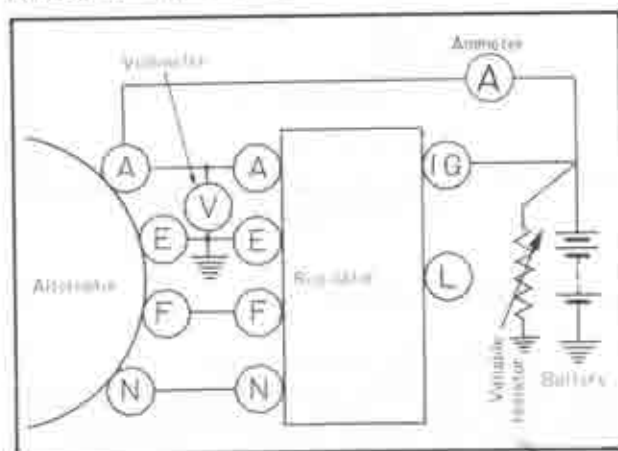

Fig. 5-17 Checking of constant voltage relay
To check, use an almost fully charged battery and connect a voltmeter between the (A) and (E) terminals of the regulator, as shown in Fig. 5-17. Then, hold the alternator revolution to 4,000 rpm (engine revolution 2,000 rpm) and take a reading of the voltmeter. If the reading is from 13.5 ~ 14.5 volts, it is in proper order. If it is not within the specifications, the voltage relay must be adjusted, as instructed in Par. 5-F-2.